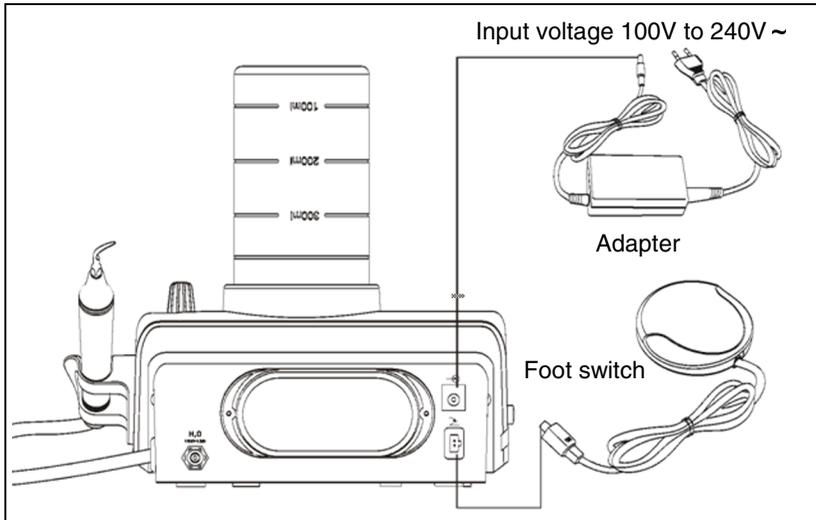

Fig. 3
- c) Insert the plug of the foot switch to its socket(See Figure 3).
- f) Insert the plug of the power source to its socket ,then get through to the power (See Figure 3).